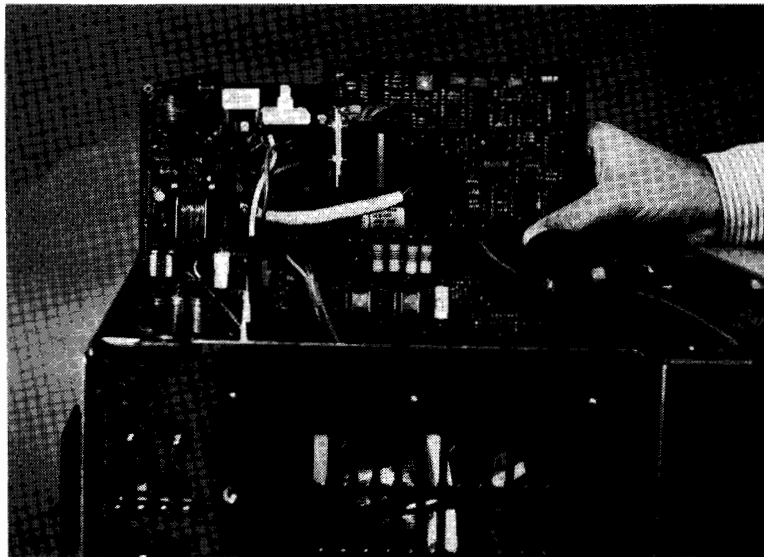

Figure 4-16. Removing the Sweep Board.
9. Pull the Sweep board up and out of the chassis (see Figure 4-16).